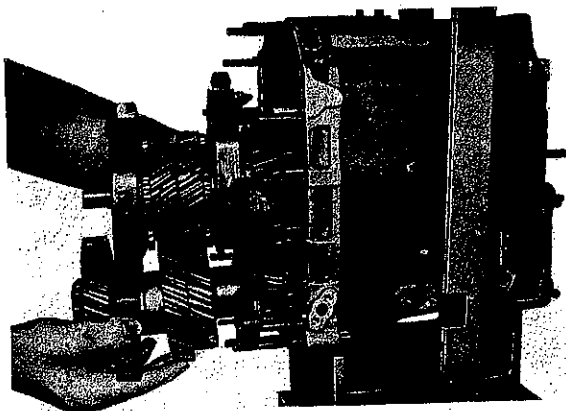

Fig. 45
1. Insert countershaft through center (606) and rear (608) shift fork. Introduce main shaft and countershaft together into housing rear end (Fig. 45).